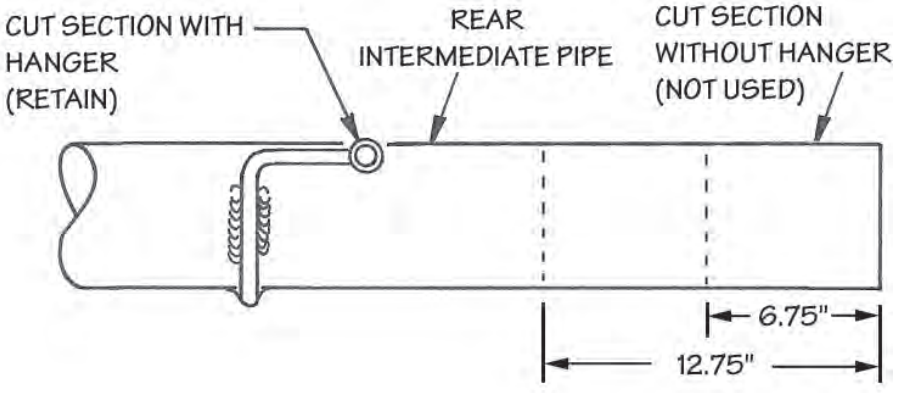

Figure 6 For Truck Models with Standard Tow Hitch
10. FOR TRUCK MODELS WITH STANDARD TOW HITCH PACKAGE, On the left inside of the bumper, remove the two (2) bumper upper retaining nuts from the studs. Install the Left Banks hanger bracket such that it is parallel with the ground. Reinstall the two (2) factory bumper nuts over the bracket and torque to 85 ft-lbs. Repeat this process for mounting the right hanger bracket. See **Figure 6**.